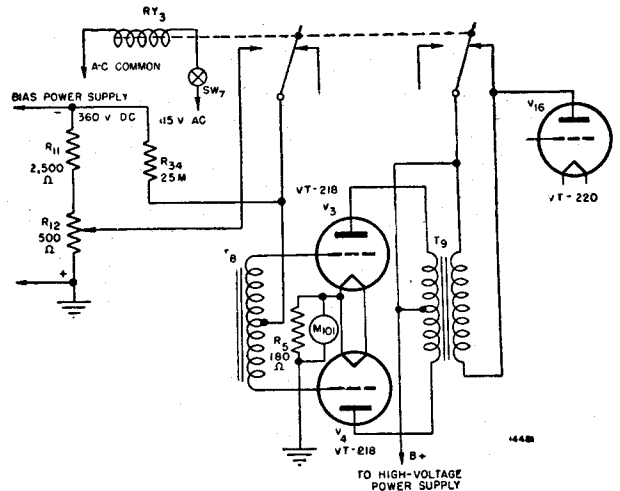

Figure 75. Phone-continuous wave switching relay  $RY_3$ —functional diagram.
b. **PHONE-CONTINUOUS WAVE SWITCHING RELAY  $RY_3$**  (fig. 75). Relay  $RY_3$  is a double-pole, double-throw relay located on the modulator deck of the transmitter. This relay operates in conjunction